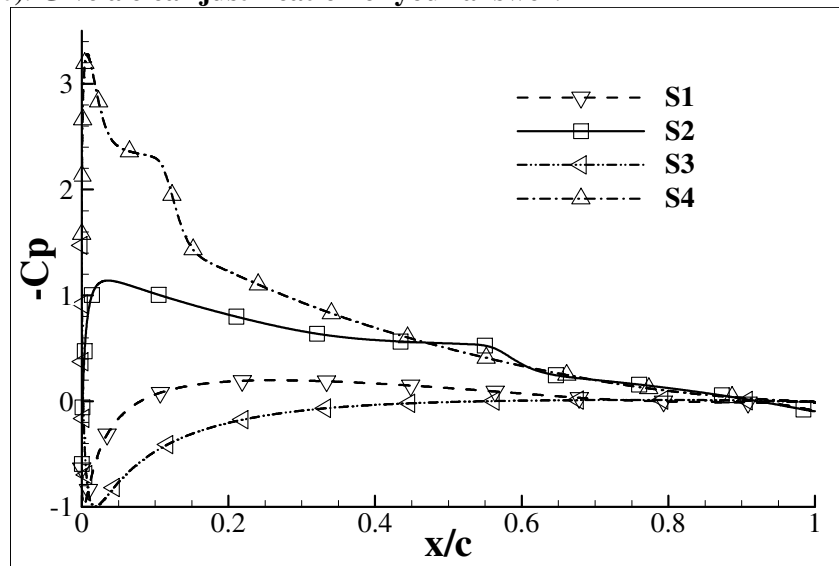
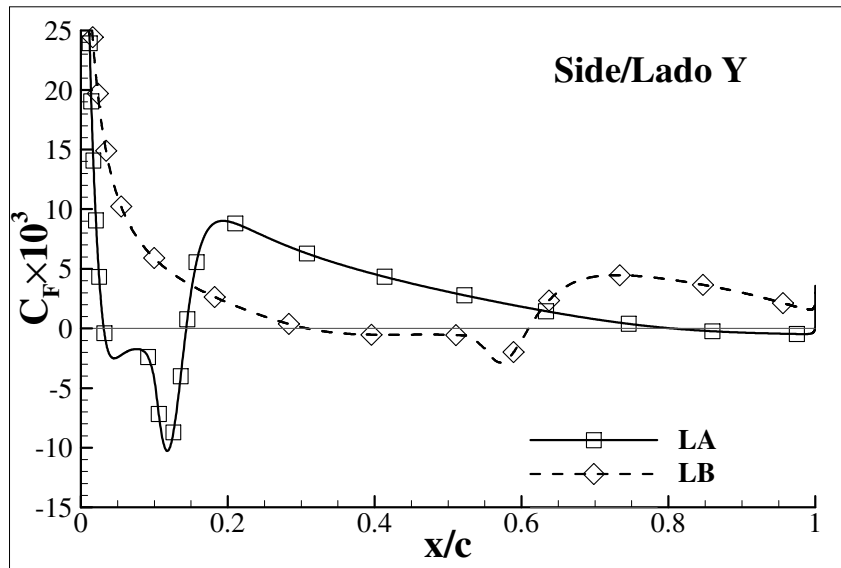

Figure 1a)
Figure 1b)
- a) Identify the results for each angle of attack corresponding to the upper and lower surfaces (S1, S2, S3 e S4) in figure 1a), (X, Y, LA, LB, LC e LD) and figures 1b) and 1c). **Give a clear justification of your answer.**